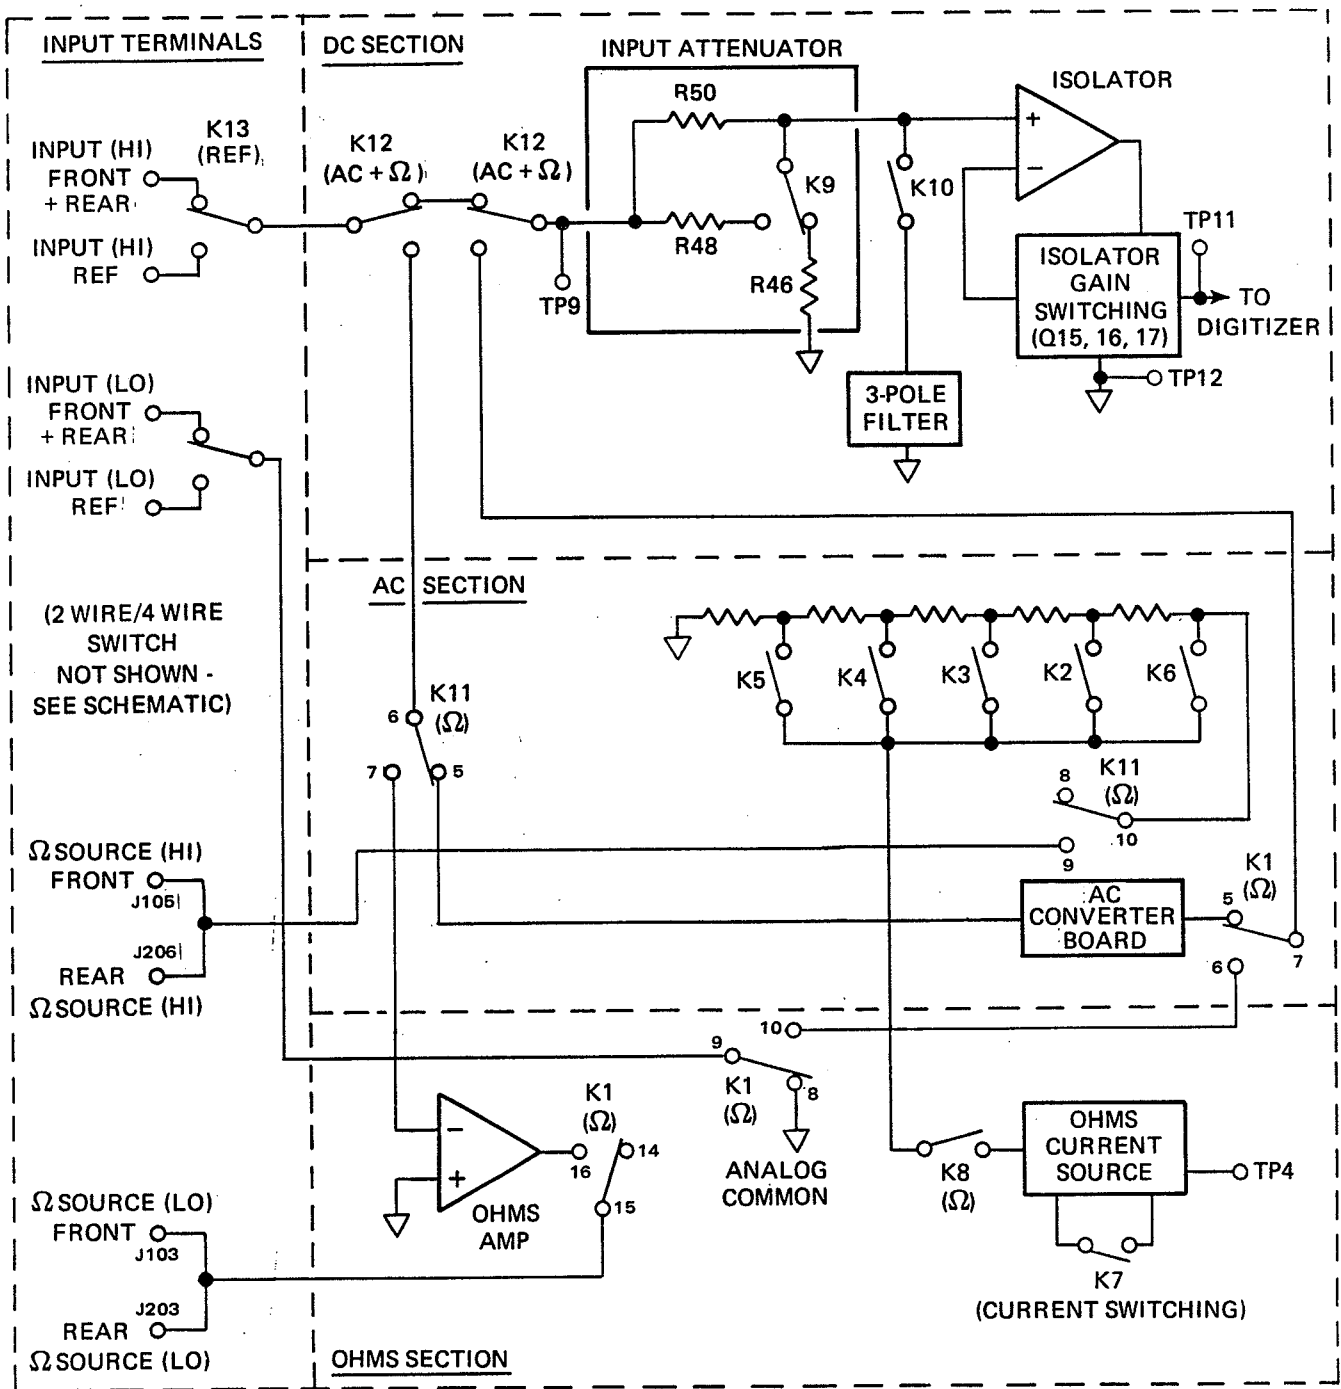
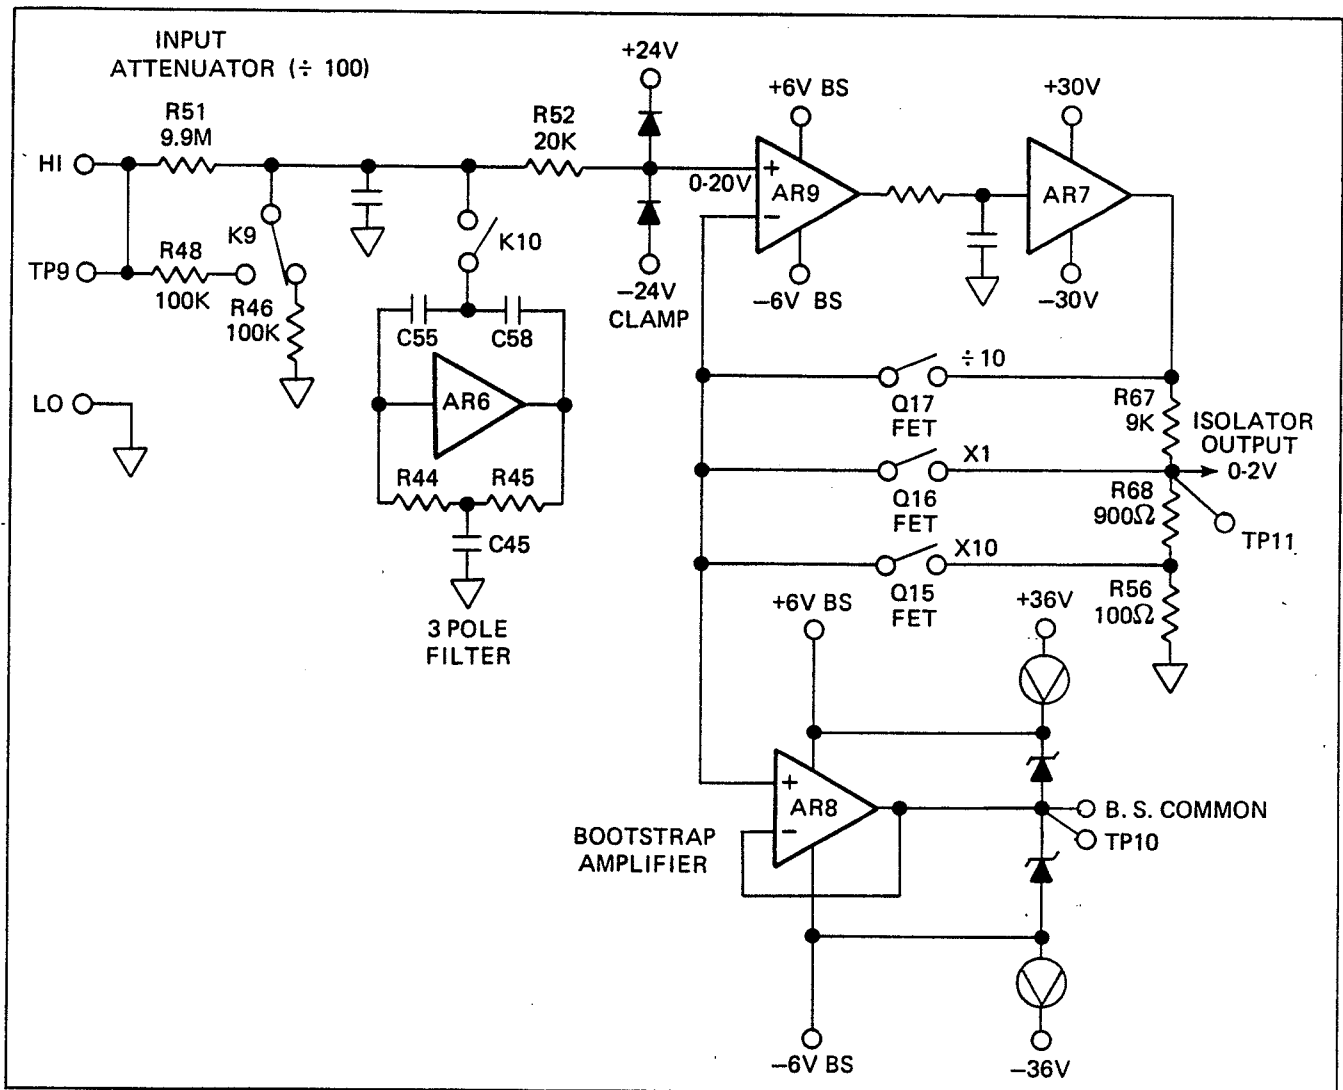

Figure 4.2 - Analog Signal Conditioning Block Diagram
Figure 4.3 - Isolator and Bootstrap Amplifier
4.3.1.2 The Analog section, as shown in block diagram Figure 4.2, consists of the following basic subsections: Input Attenuator, Selectable 3-pole Active Filter, Variable gain Isolator, Variable gain AC Scaling Amplifier, True RMS or average AC converter, Ohms Amplifier and a Variable Ohms Current Source. A description for each function follows in this section.
one volt full scale; filtering the signal to reduce unwanted noise; isolating the source from loading effects. The DC signal conditioning is performed by the Input Attenuator, Isolator, and Filter. A simplified diagram of this circuit is shown in Figure 4.3. The complete block diagram showing the relationship to other parts of the analog section is shown in Figure 4.2.
4.3.4.1 The Isolator contains an Input-Clamp, a high open-loop gain amplifier, bootstrap amplifier, and a gain switching network controlled by the range and function logic. A simplified diagram is presented in Figure 4.3 and the Isolator Range chart is shown in Table 4.3.
AR7. The output of AR7 is applied to a feedback network consisting of R67, R68 and R56. Listed next is Table 4.4, which charts scale factors for the Isolator gain-switching (or attenuation) and Figure 4.3 shows a simplified diagram of the Isolator feedback network.